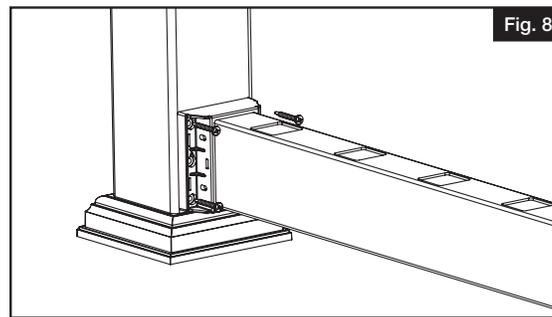

Fig. 8
- d. Drive the first #10 x 1 1/2" screw through bottom bracket into post (Fig. 8).